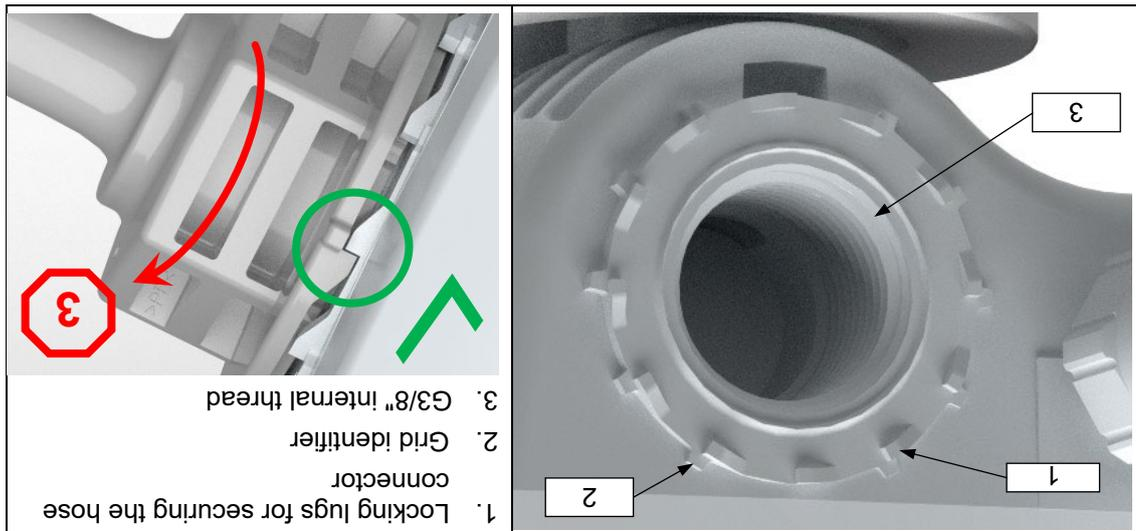

Figure 6
Hose connection material from other suppliers can be fitted in the G3/8" thread (Figure 6, item 2). A prerequisite is removal of the elobau hose connector. Read the procedure for this in chapter 5.4.2 Assembly and disassembly of the hose connector.
Original elobau hose connectors are available for the G3/8" thread (Figure 6, item 2). These can be acquired separately as accessories in different sizes. (See chapter 8 Accessories and spare parts list).
- *Hose connector must engage as per Figure 6. If this is not the case, continue screwing in the hose connector in the tightening direction until the hose connector visibly engages with the next locking lug on the housing (see Figure 6).*
Optionally, a hose connection material available on the market can be fitted to the 3/8" thread (Figure 6, item 2) of the head section.
We recommend a tightening torque of 2.3 Nm-0.2 Nm/0.7 Nm. When the tightening torque is reached, continue turning the hose connector to the next secure locking lug in the tightening direction (3). Ensure that the locking lugs engage correctly (see Figure 6).